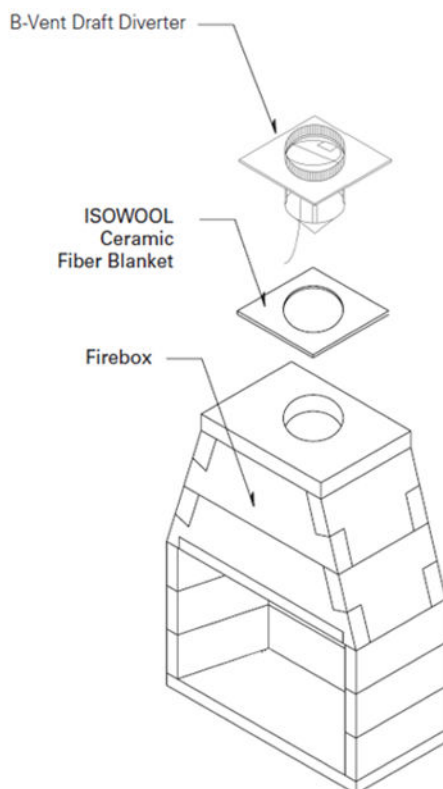

FIGURE 23
3. Secure the BVT-2 Anchor Plate with Down-Draft Diverter with four (4) masonry anchors (**Figure 23**). The damper should swing freely. When the chain is pulled down, the damper should close (horizontal position). When the chain is released (no weight on the chain), the damper should swing open (vertical position).